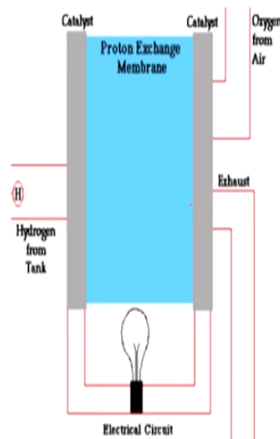

Fig.7: Fuel cell structure
- The structural part is shown in Fig.7